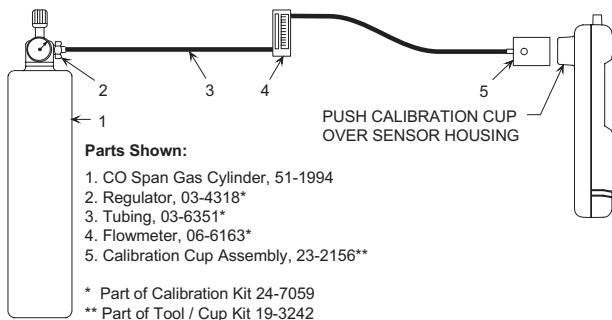

Figure 2. Calibration Equipment Setup
1. Assemble the calibration equipment per Figure 2.